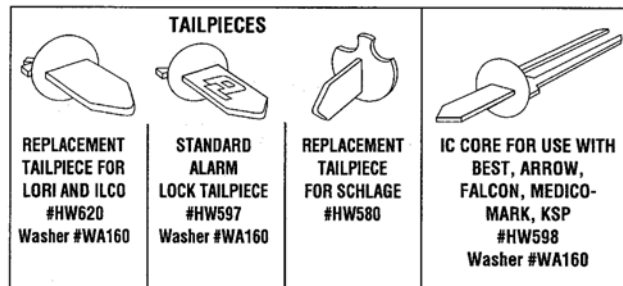
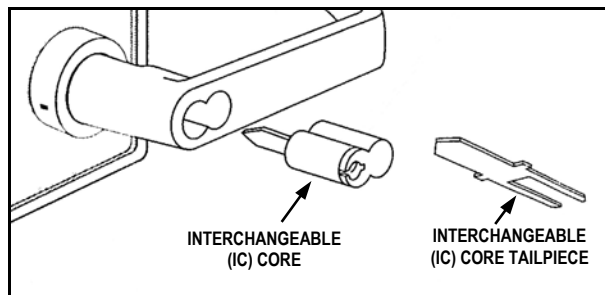

FIG. 21: STANDARD AND IC CORE TAILPIECE VARIETIES
FIG. 22: INSTALL INTERCHANGEABLE (IC) CORE
3. Insert IC core tailpiece (shown in Fig. 21 and Fig. 22) into primary side core. **Note:** With the PDL/DL6100 locks, *tailpieces are used in primary side cores only*. Use **ONLY** an Alarm Lock® IC core tailpiece.
- Key and tailpiece orientation are incorrect (See Fig. 21 and 22).
- Lever Catch not fully engaged. Lock is not centered on door. Check for proper tailpiece and proper orientation of tailpiece (See Fig. 21 and 22).